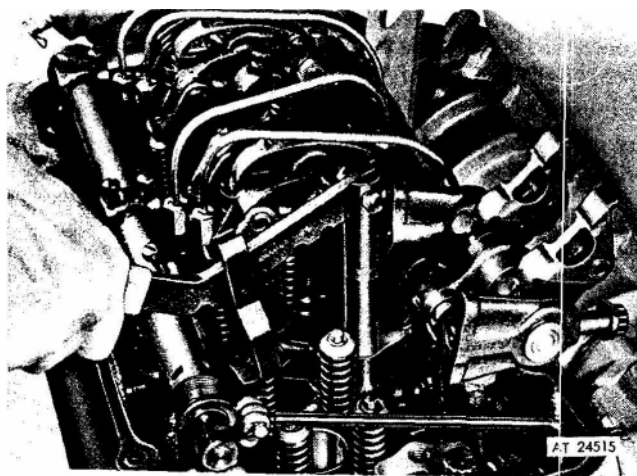

Figure 2. Removing exhaust valve spring.
6. Thread the spring compressor J 7455 into one of the cylinder head bolt holes (fig. 2). Then, compress the spring and remove the two-piece valve lock.